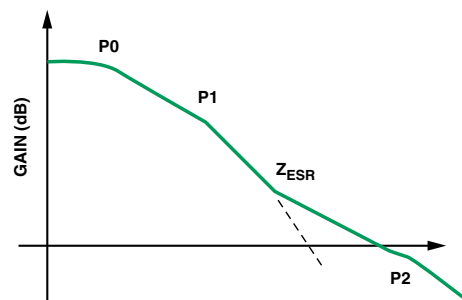

Figure 4. LDO frequency amplitude response.
- The dominant pole ($P0$ in Figure 4) is set by the error amplifier; it is controlled and fixed, in conjunction with the g_m of the amplifier, through an internal compensation capacitance C_{COMP} . This pole is common to all of the LDO topologies described above.
As Figure 4 shows, each pole contributes 20 dB/decade of roll-off in gain, with up to 90° of phase shift. As the LDOs discussed here have multiple poles, the linear regulator will be unstable if the phase shift at the unity-gain frequency approaches -180°. Figure 4 also shows the effect of loading the regulator with a capacitor, whose *effective series resistance* (ESR) will add a zero (Z_{ESR}) into the transfer function. This zero will help to compensate for one of the poles and can help to stabilize the loop if it occurs below the unity-gain frequency and keeps the phase shift well below -180° at that frequency.